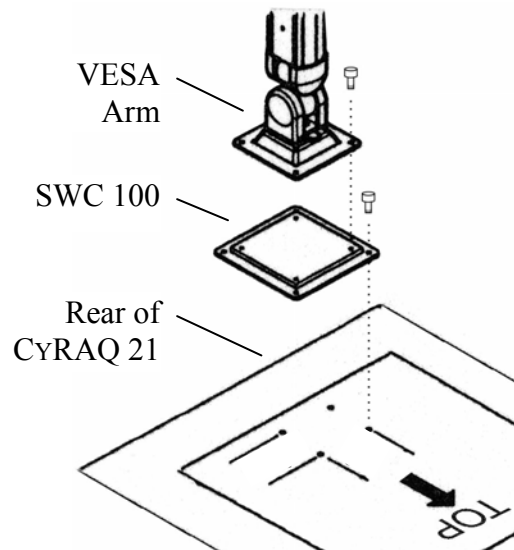

Figure 13: Mounting Arm to Display
- 5) Carefully place display on the bench top with screen facing down, as seen in Figure 13.